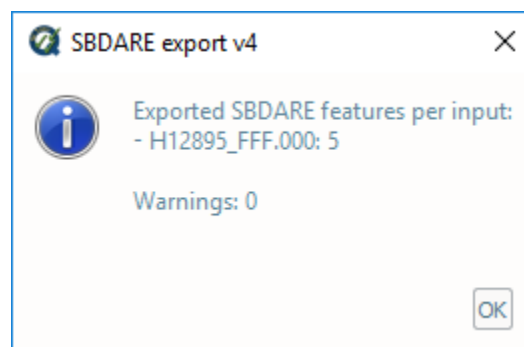

Fig. 2.34: SBDARE exports output message.
- After computing, the output window opens automatically, and the results are shown. Any errors that occur while processing will appear in the output message. (Fig. 2.34):